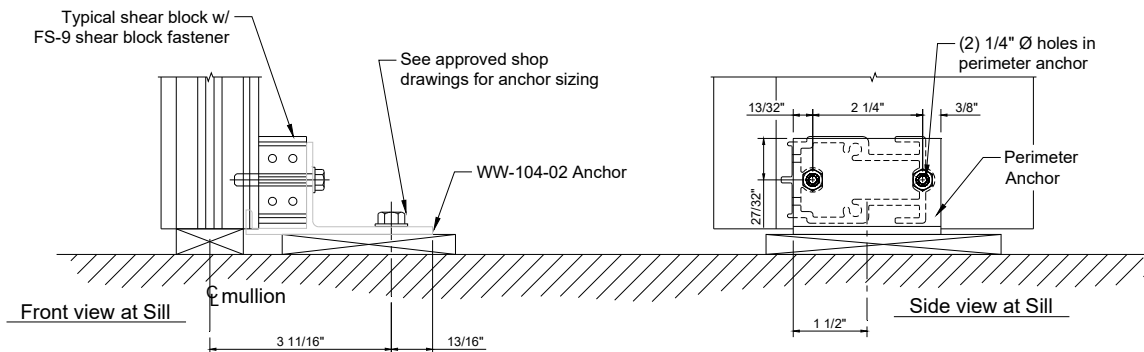

Figure 37: Shear Block Anchorage at Sill (Captured Mullion Shown; SSG Mullion Similar)
- 11.2 Install Verticals plumb and level. Place shims under Vertical at Sill to evenly distribute dead load from wall. See *Figure 37*.